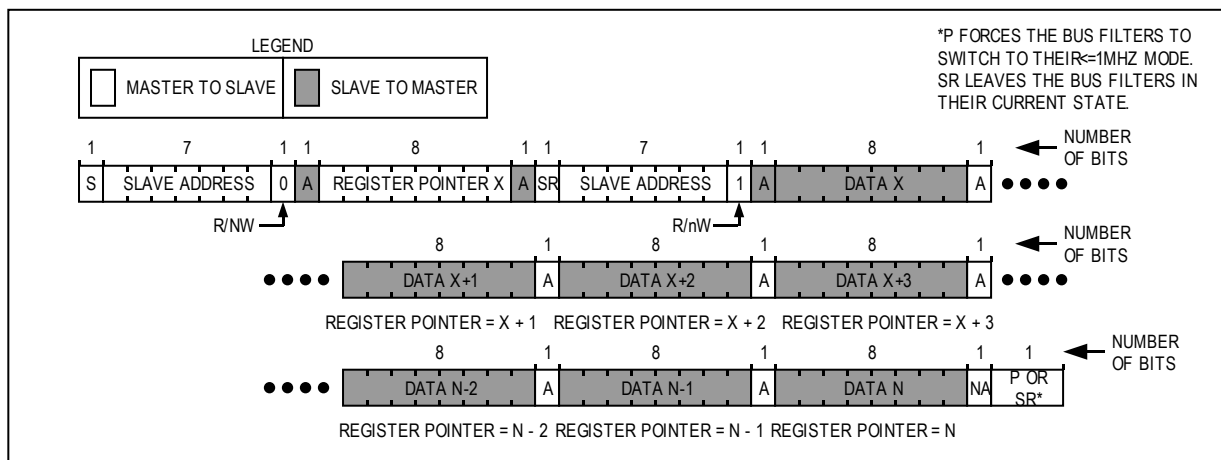

Figure 8. Reading from multiple registers.
Figure 8 shows the protocol for reading from sequential registers. This protocol is similar to the read-byte protocol except the master issues an acknowledge to signal the slave that it wants more data. When the master has all the data it requires, it issues a not-acknowledge (nA) and a STOP (P) to end the transmission.